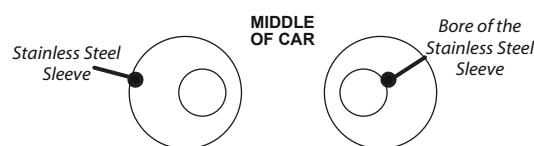

Figure 2
**Tip: for maximum caster adjustment, place the bore of the sleeve towards the middle of the car (Figure 2).**